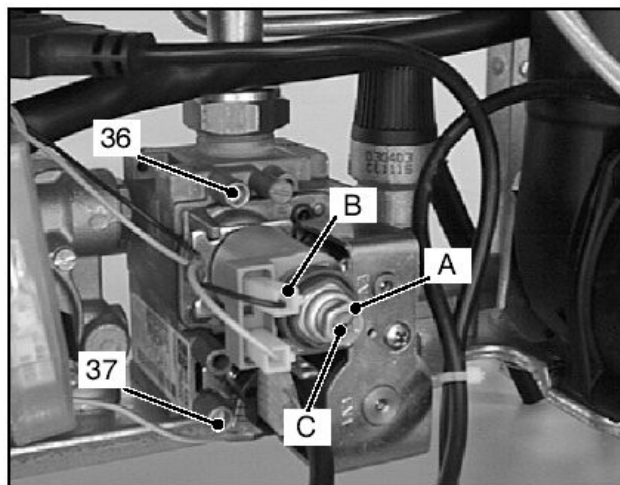

Fig. 6.48
2. Open the gas valve inlet pressure test point (4.1 in Fig. 6.48) at the valve input, connect a suitable pressure gauge, check the gas pressure of the supply network and compare the value on the gauge with the value indicated in the sections 4.5 or 4.6 (gas supply pressures).
3. Remove the gauge and close the pressure test point 4.1 (Fig. 6.48).
4. Loosen the internal screw 4.1 (Fig. 6.48) on the Outlet Pressure Test Point of the Gas Valve and connect a pressure gauge using a suitable hose.
To adjust the pressure rotate the maximum gas pressure adjustment (A in Fig. 6.48) until you obtain the required pressure (by rotating clockwise the pressure increases).
10. Disconnect the gas modulator coil by removing the electrical connector B (Fig. 6.48).
To adjust the pressure rotate the minimum gas pressure adjustment (C in Fig. 6.48) until you obtain the required pressure (by rotating clockwise the pressure increases).
3. Unscrew the gas valve's outlet pressure test point 4.1 in Fig. 6.48 and connect a pressure gauge.